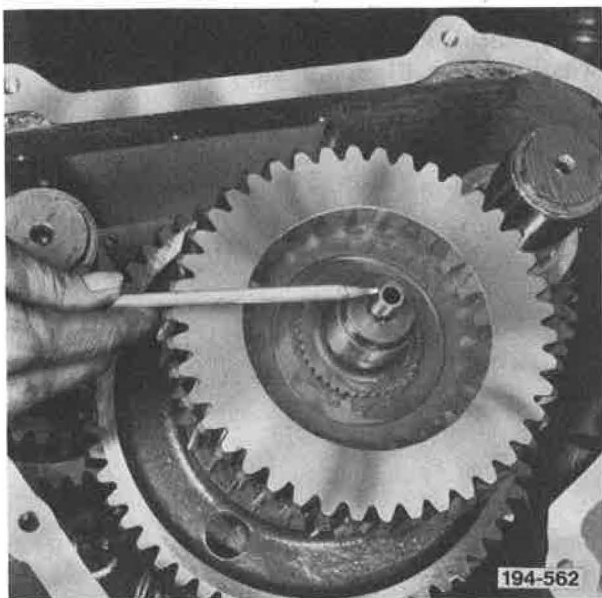

Figure 5-253. Front Mainshaft Oil Tube
1. With front case in a vertical position, remove front mainshaft oil tube, only if necessary to replace it. Run a tap into the tube, and then insert a capscrew into the threads cut by the tap. The oil tube can then be removed by pulling and twisting the capscrew. See Figure 5-253.